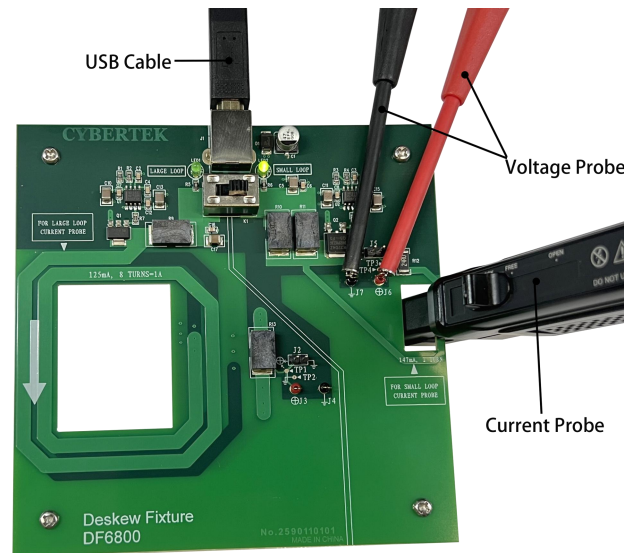

Figure 1
- ✧ Connect the HCP8000 series probe with the current loop of DF6800 and connect them according to the correct current direction as shown in Fig 1 and 2 below.